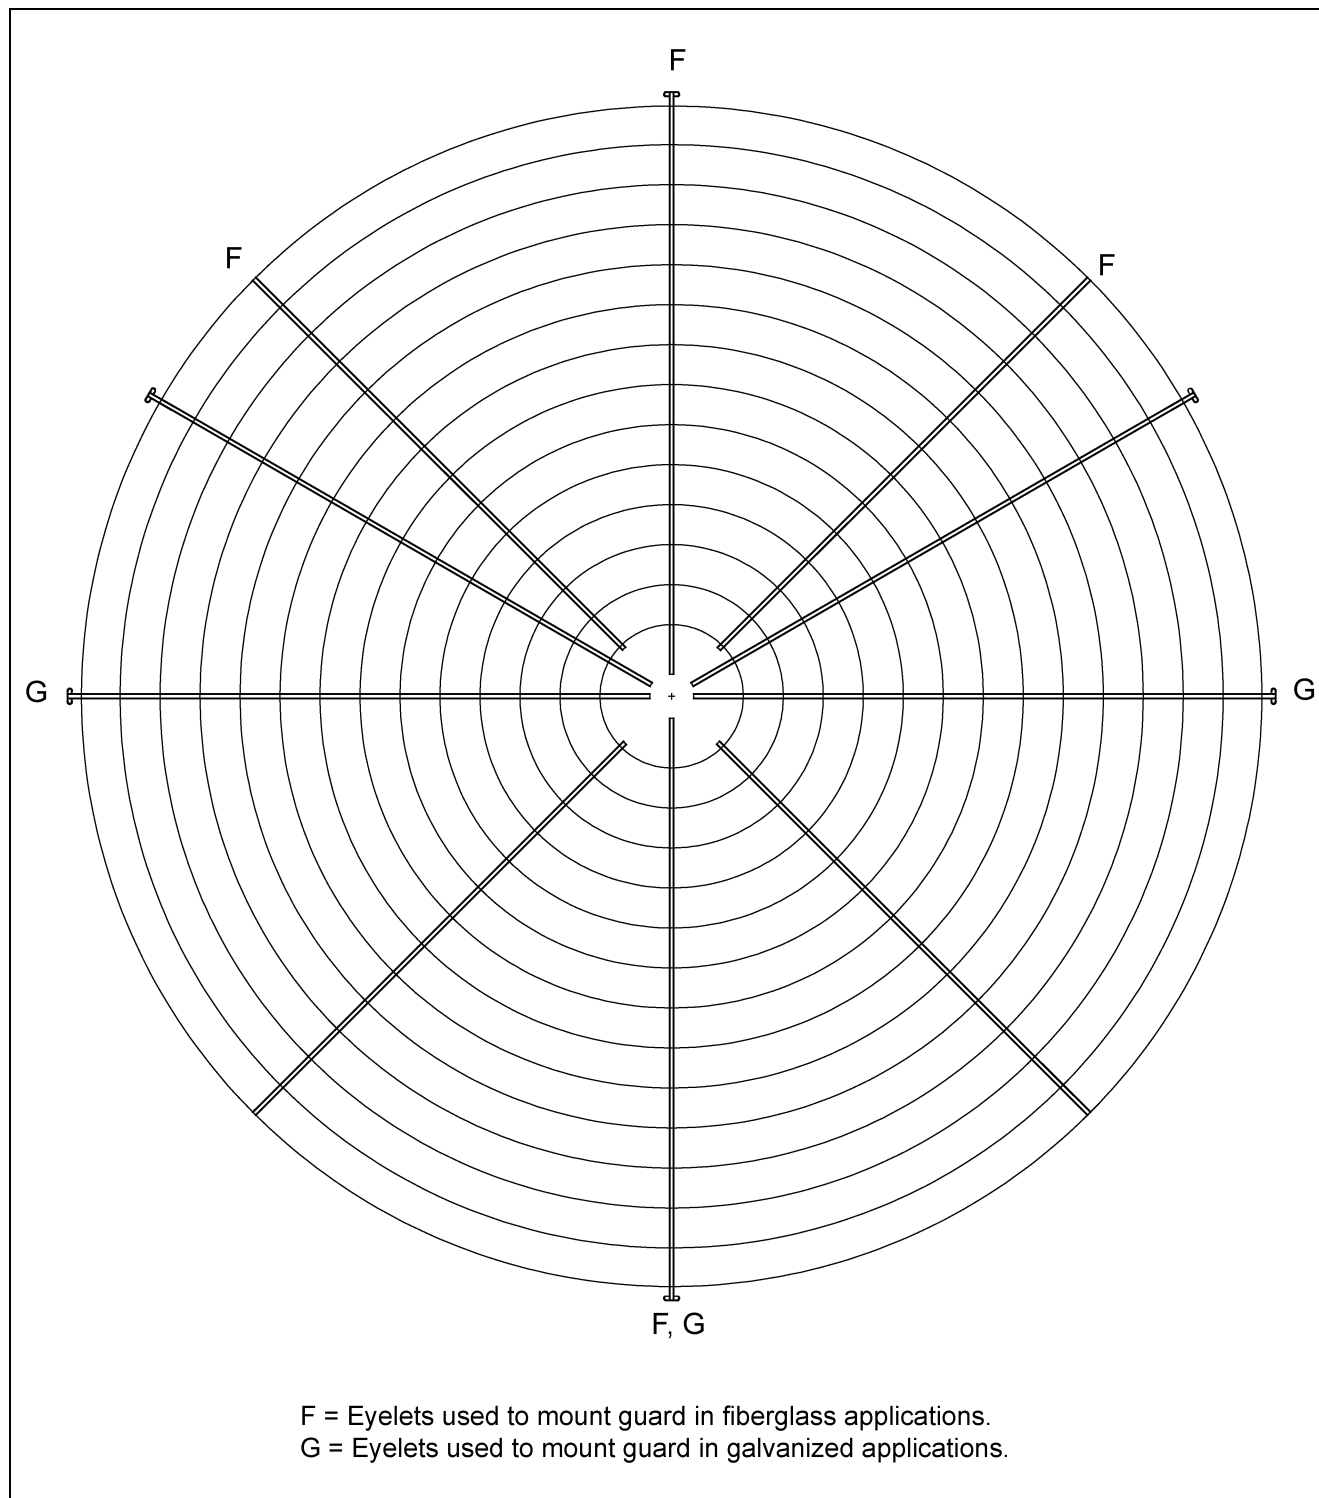

Figure 9D
See guard detail in Figure 9D below for appropriate eyelets to be used with fiberglass fans. Push guard into fan until eyelets contact the center of each cone panel. Mark and drill three (3) 7/16" holes in the center of each cone panel. Use 1-1/2" bolts, fender washers and flange nuts to mount guard. Tighten hardware evenly.